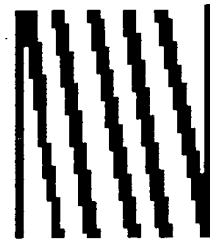

FIG. 4
- Fig 4 shows ~~compressible~~ COILED spring with free height  $\pm 14$  mm, outside diameter  $\pm 9$  mm.